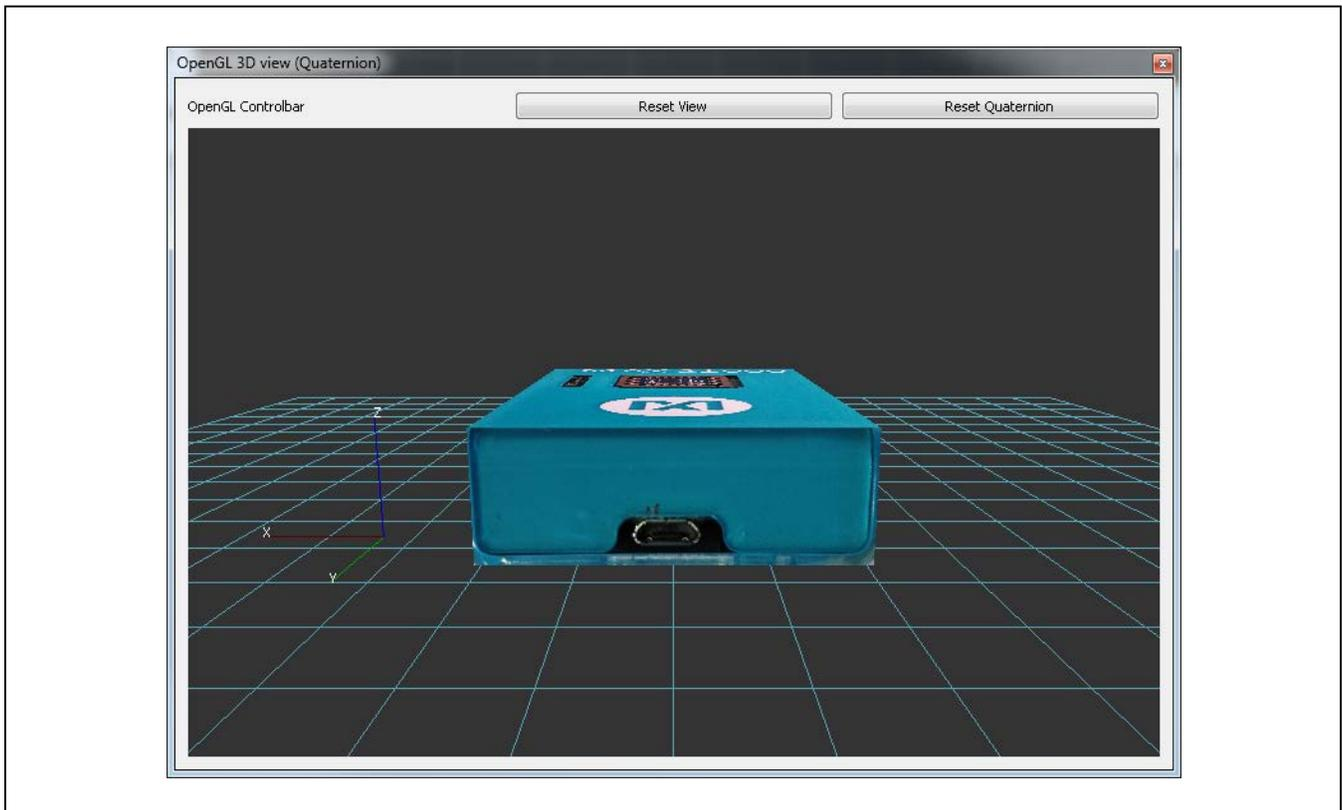

Figure 23. 3D View
- **3D View:** This view shows a 3D representation of the current position of the MInD device (Figure 23).